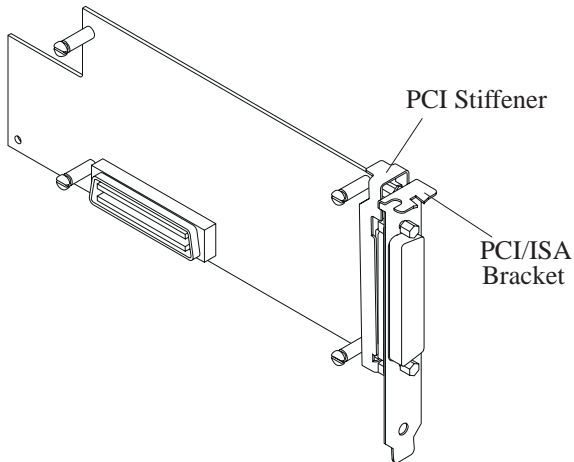

Figure 2-1. PCI/ISA Bracket and Stiffener
The bracket and stiffener attached to your AIB should look like those in Figure 2-1.
4. Using the 3/16-inch hex nut driver and the hex screws and washers you removed in the previous step, attach the PCI/ISA bracket and stiffener so it looks like Figure 2-1.